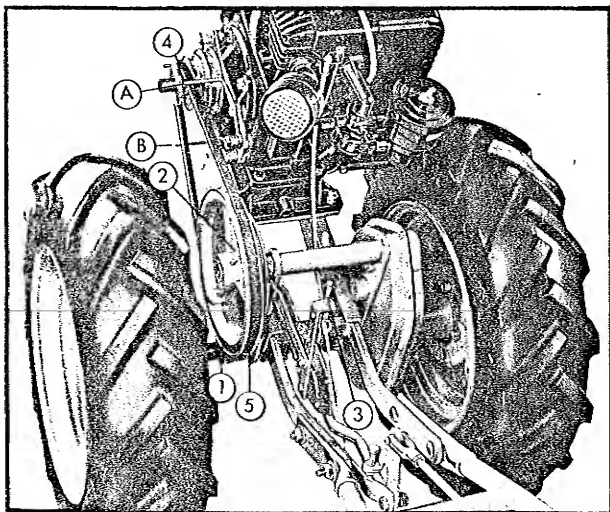

Figure 1
Recommended for close cultivation and for use with weed cutter and saw in horizontal position. Miles per hour 1.25 to 1.85. To obtain "Lo-Lo" speed see Figure 1. With pulley (1) mounted as shown (small pulley to the inside) raise plunger (2) and slide pulley (1) to the left until plunger drops in the outside spot on pulley shaft.
With pulley (1) mounted as shown (small pulley to the outside) raise pulley plunger (2), Figure 1, and slide pulley (1) to the left until plunger drops into middle spot on pulley shaft.